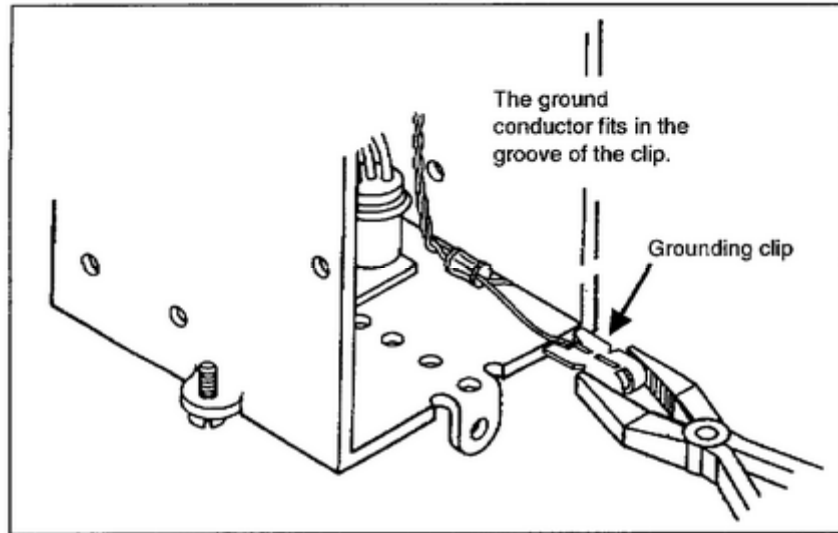

Figure 2-11. Grounding clip holding the ground conductor
c. Another method is to use a grounding clip (Figure 2-11). The grounding clip slides over the box and the ground conductor. The ground conductor fits in the groove of the grounding clip, and the grounding clip holds the ground conductor securely to the metal box.